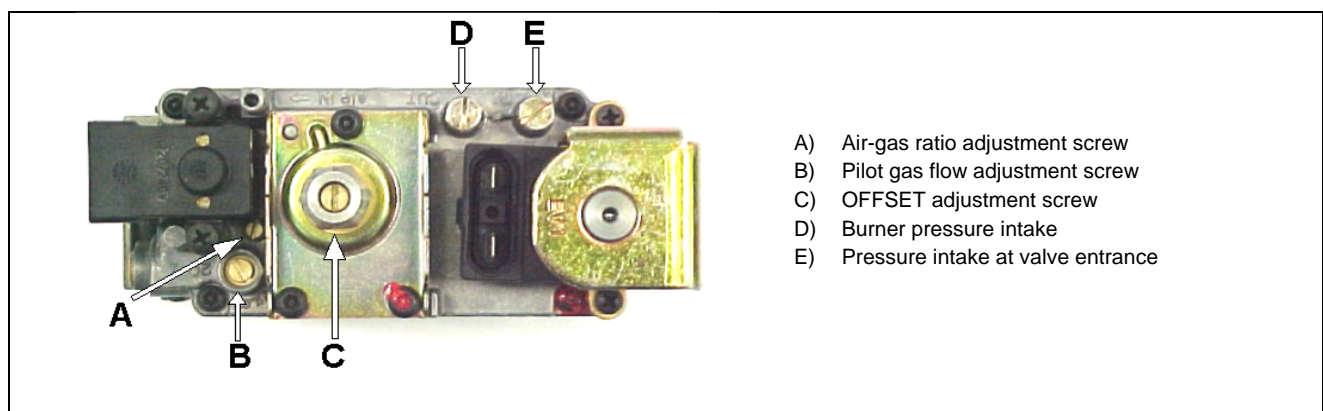

Figure 15 – Novamix SIT 822 gas valve
- A) Completely unscrew the air/gas ratio adjustment screw A (Figure 15), turning it anticlockwise.
- B) Tighten screw B (Figure 15) until flush, turning it clockwise.
- the positive connector (+) to the blower gas pressure intake D (Figure 15) on the gas valve;
- J) Switch off the heater, disconnect the differential manometer from the valve's gas pressure intake "F" and the burner's "G", restore the connection of the silicone tube to the gas valve's connector "F" and tighten until flush screw "D" (Figure 15) of the gas pressure intake.